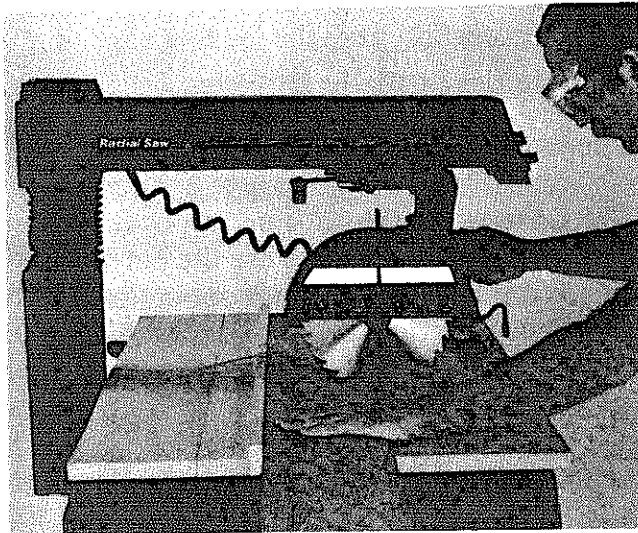

Fig. 92 Distance Needed to Complete Crosscut
13. Pull blade through fence and workpiece just enough to complete the cut. Fig 92.